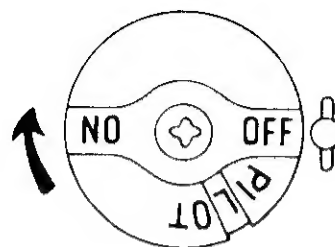

Fig. 3
- Release and continue turning clockwise to the OFF position. See Figure 3.